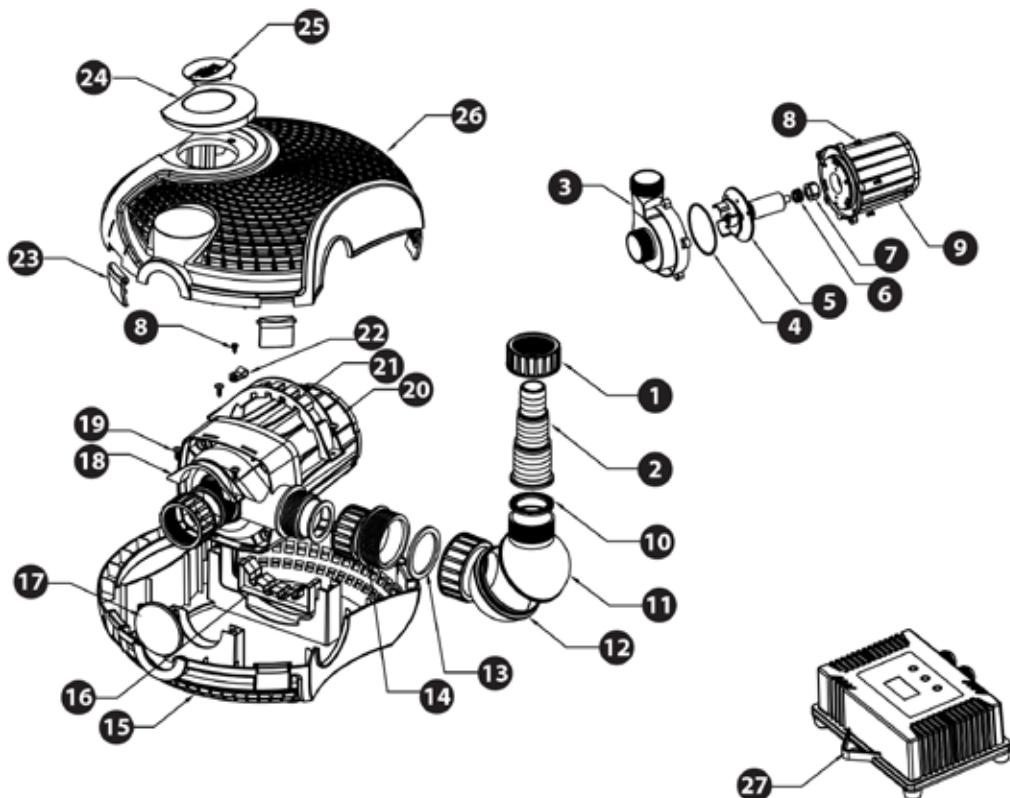

Figure 1.1
(L) Do not use power cable to lift pump. (**See figure 1.1**)